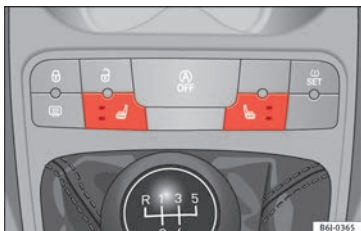

Fig. 142 Front seat heating switch.
- Press the corresponding switch »» Fig. 142 to switch on the seat heating.
- Press once to connect the heating at maximum force. The two LEDs illuminate »» Fig. 142. After 15 minutes of high inten-